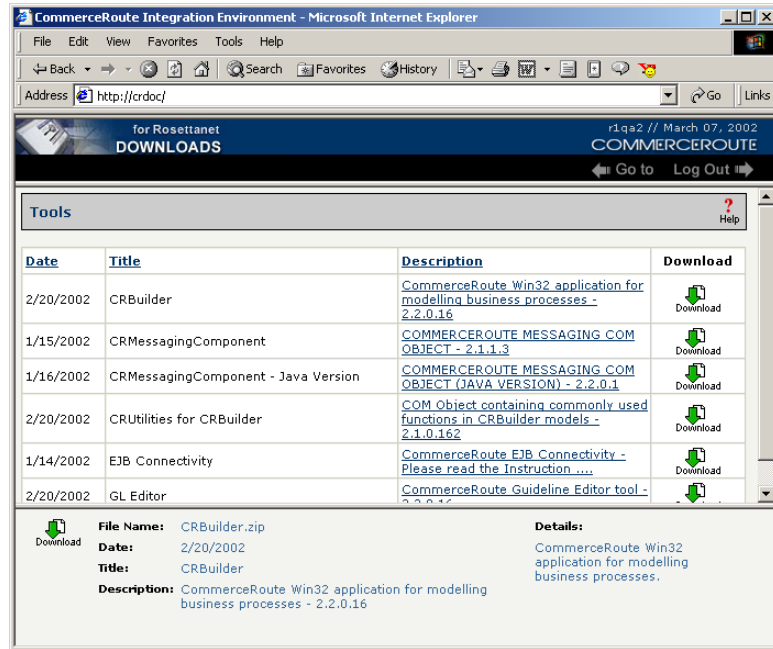

Figure 26-2. Click on the CRbuilder link in the download screen to download CRbuilder to your computer.
- ❶ The Download screen appears. Click the **Download** button next to CRbuilder to download the .exe file to your machine (see Figure 26-2, below).
- ❷ Once you the application is finished downloading, click Open on the